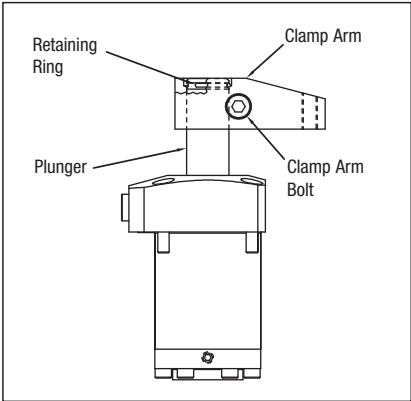

Figure 4, Attaching Clamp Arm
2. Slide the clamp arm down over the plunger and use a pliers to push the retaining ring back onto the plunger groove. Orient the retaining ring so the retaining ring gap will face the back of the clamp arm. See Figure 4.